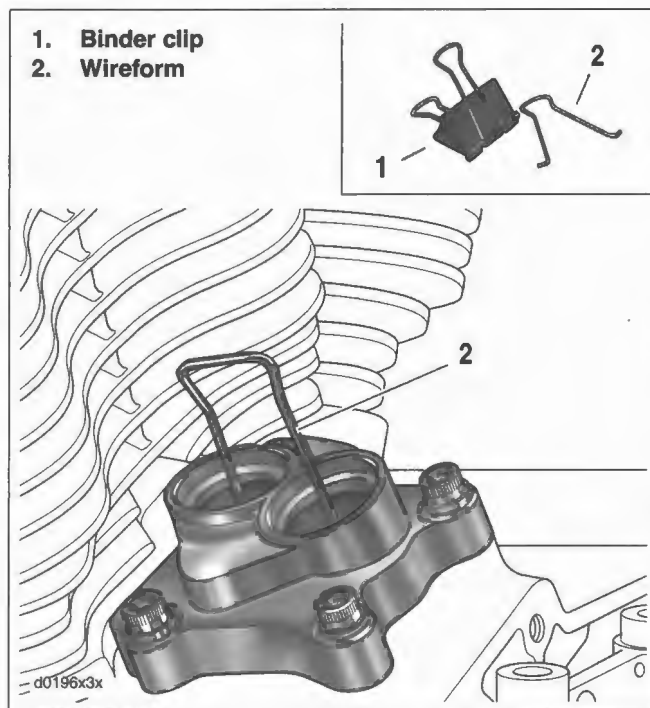

Figure 3-124. Hydraulic Lifter Holding Tool
2. See Figure 3-124. Fashion lifter holding tool to prevent the hydraulic lifters from dropping into the cam compartment during cam support plate removal:
- a. Obtain a large binder clip (1) which is available at any office supply store. Squeeze wireforms (2) to remove from binder clip.
- b. Compress wireform (2) slightly and insert free ends into outer and inner lifter cover bores so that legs engage walls of both hydraulic lifter sockets.